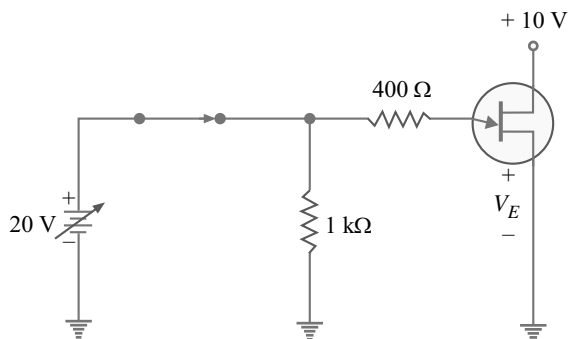

Fig. 19.38
8. The *UJT* of Fig. 19.38 has  $\eta = 0.85$ . What is the ideal emitter current ? [50 mA]
9. The valley current of *UJT* in Fig. 19.38 is 7 mA and the emitter voltage is 1 V at this point. At what value of the emitter supply voltage does the *UJT* open ? [3.8 V]